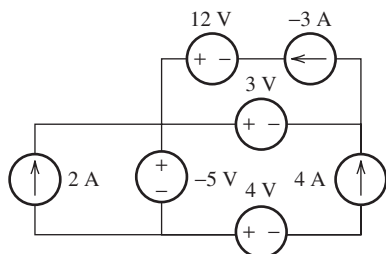

FIGURE P2.58 Circuit for Problem 2.58.
2.58 (A)* For the circuit shown in Figure P2.58: